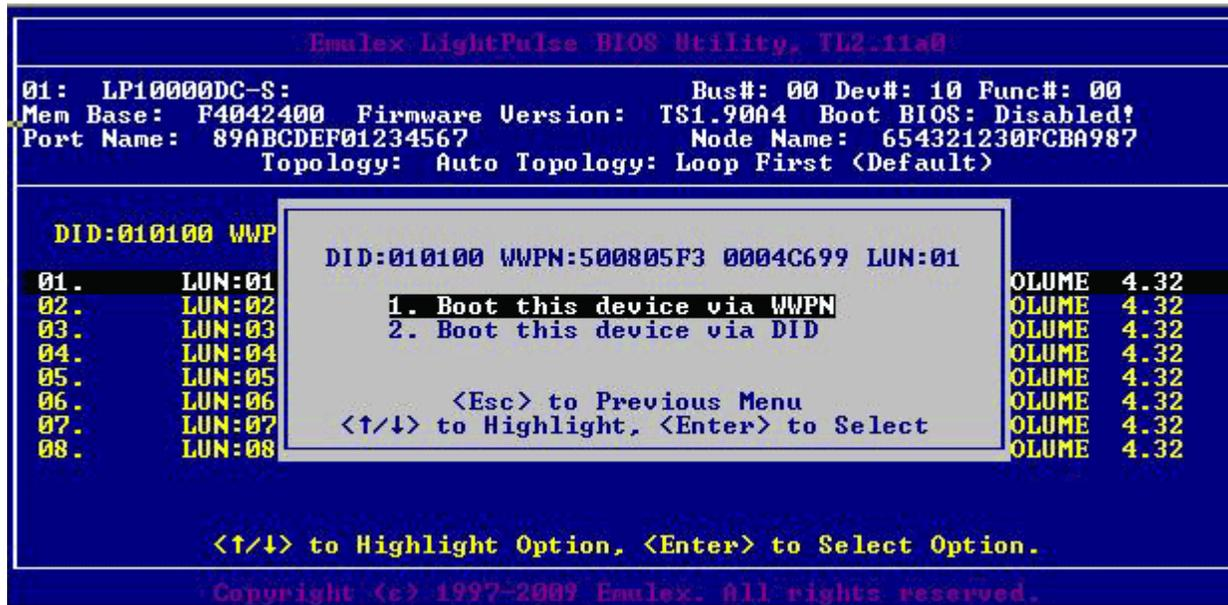

Figure 7: Boot Devices menu
- Type the two digits corresponding to the entry you are selecting. The boot devices menu (Figure 7) displays the following options: